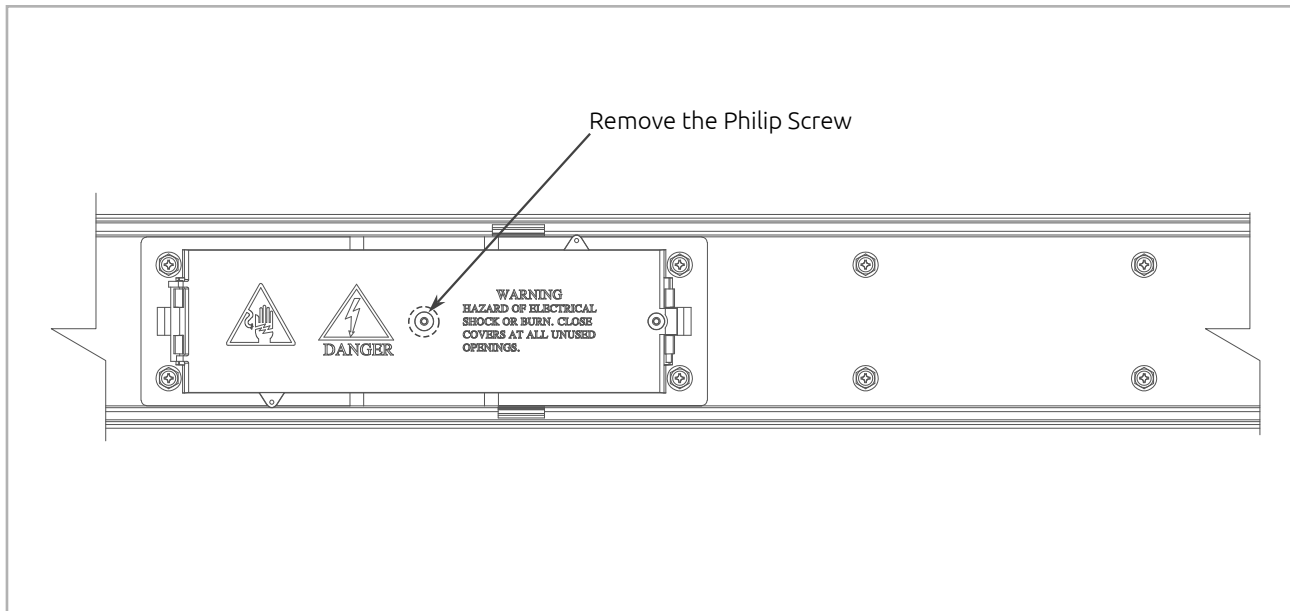

Figure 17.1
2. Open the plug in outlet and remove the cover by removing the Philip screw. (See Figure 17.1)